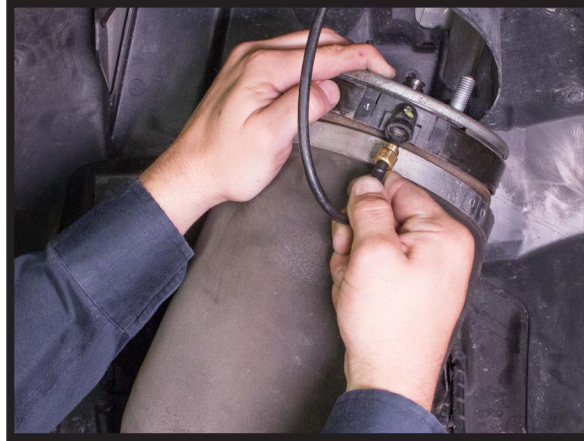

FIGURE 13
13. WITH THE STRUT REMOVED YOU CAN NOW GAIN ACCESS TO ITS AIR HOSE CONNECTION, REMOVE THE FITTING TO FREE THE ASSEMBLY. (FIGURE 13)